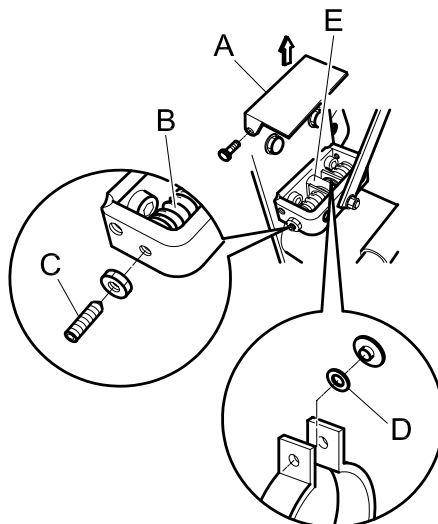

Figure 8
- remove the cover (Fig.8 Ref. A);
- tighten both springs to the same load (Fig. 8, Ref. B) using the relative dowels (Fig. 8 Ref. C);
- check that the brake works properly. If the brake still does not work properly, the brake lining may be worn, in which case the shims (Fig. 8, Ref. D) must be removed so that the eccentric control pin (Fig. 8 Ref. E) is slightly loose and not locked into position.